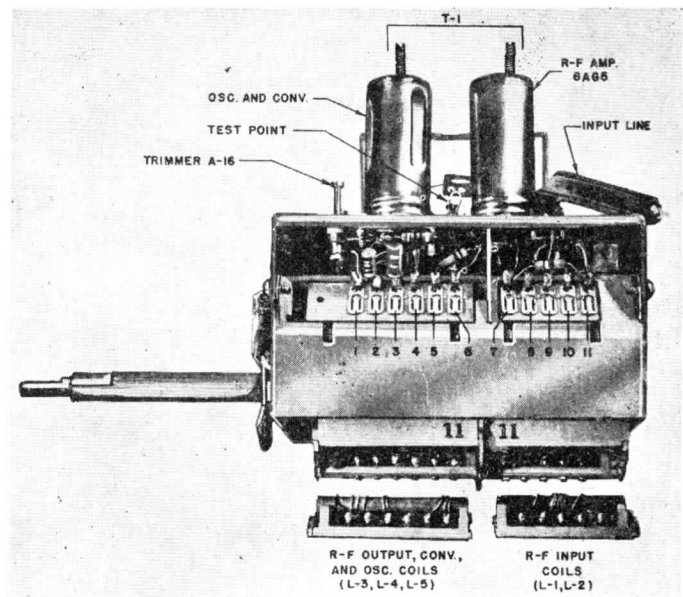

Figure 5-9—Side View Tuner
**NOTE:** The r-f response curve of the tuner, on each channel may be observed by connecting the scope in series with a 10K resistor to the test point shown in figure 5-9. The curves should have maximum amplitude and flatness, consistent with proper placement of the 21.25 mc. marker on the i-f response curve.